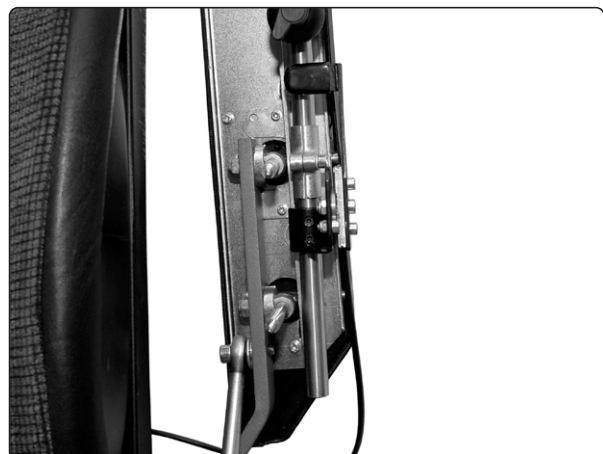

Fig.5.
9. Mount the controls in the desired position on the panel holder. For example, as shown in fig. 5. Lock in position using the two stop screws.